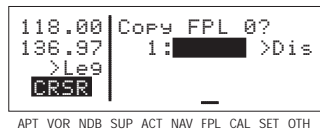

Figure 4-119
2. Turn on the cursor (**CRSR**). It will appear over the blank first waypoint position (figure 4-119).